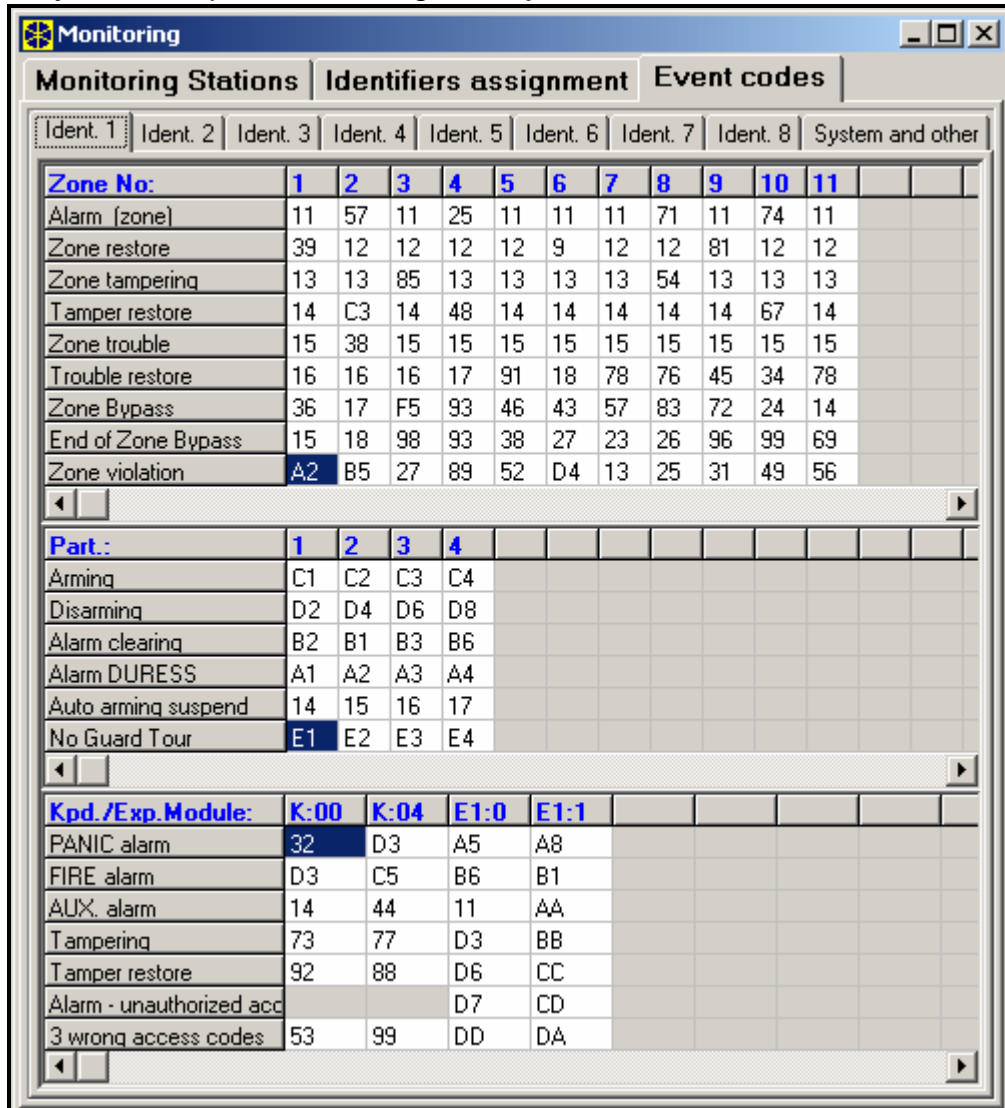

Fig. 19. Programming of monitoring codes for pulse formats.
Event codes are programmed after the division is made. The DLOADX program (and corresponding service functions) shows all events assigned to the identifier, which facilitates correct programming of codes (the event code window shows only the fields for those codes which will be transmitted with the given identifier – see Figure 19).
- The event codes shown in Figures 19 and 20 are taken at random to illustrate an example of programming. They should be programmed as recommended by the monitoring station operating personnel.